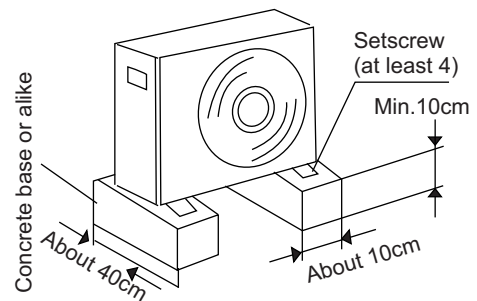

Fig.4.4
- (4) Make sure fasten the outdoor unit tight and horizontal avoid to make noise when the machine oblique Or inclined by strong breeze or earthquake.
- (5) Not drain off water to the public places avoid to slip.
- (6) Make a strong base(made of concrete or alike). The appliance should be placed not less than 10 cm high to avoid being wet or corroded. Otherwise, it may cause damage to the appliance or reduce its life time.
- (Figure 4.4)